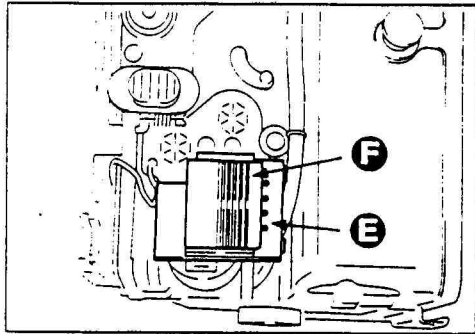

Fig. 5
1. Before reassembling right cover, insert the RC cover (F) to the RC pin base (E) from the direction RC and then assemble right cover. (See Fig. 5.)